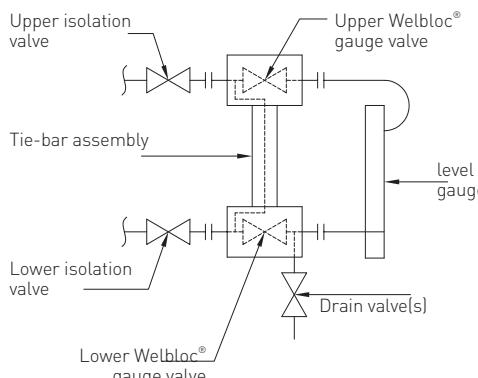

FIGURE 2A
- 5.2.1 Gauges with Tie-Bar, Welbloc® Gauge Valves and Isolation Valves (Figure 2A)